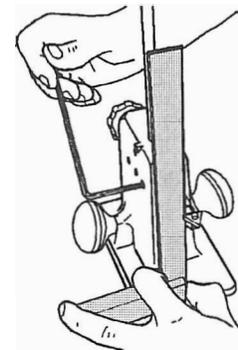

Fig. B-6
4. Place a precision square against the base and the side of the cutter support, as shown in Fig. B-6. Adjust the cutter support so it is flat against the square, then tighten the two cutter support setscrews.